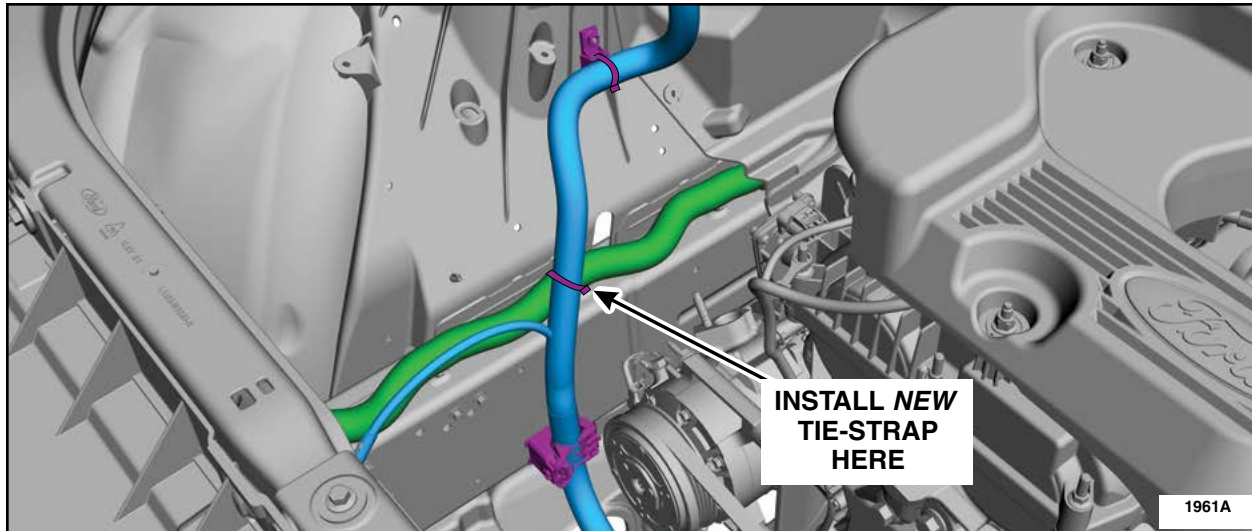

FIGURE 2
4. Install a tie strap securing the battery positive cable wire harness to the engine wire harness. See Figure 2.